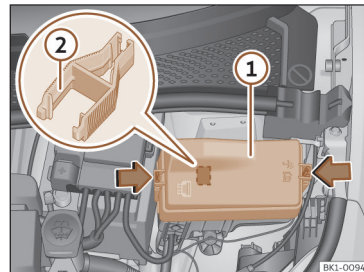

Fig. 171 In the front compartment: fuse box cover.
- Press the locking tabs to unlock the fuse box cover >>> **Fig. 171 ①**.
In the fuse box there may be plastic tweezers for removing fuses >>> **Fig. 171 ②**.